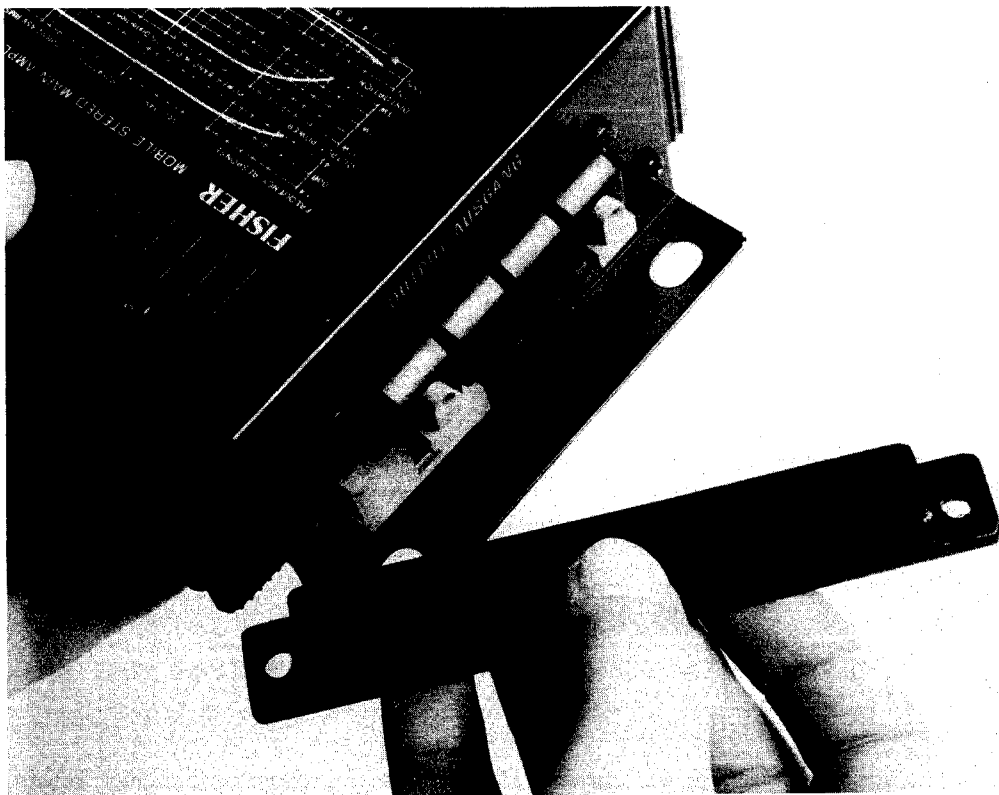
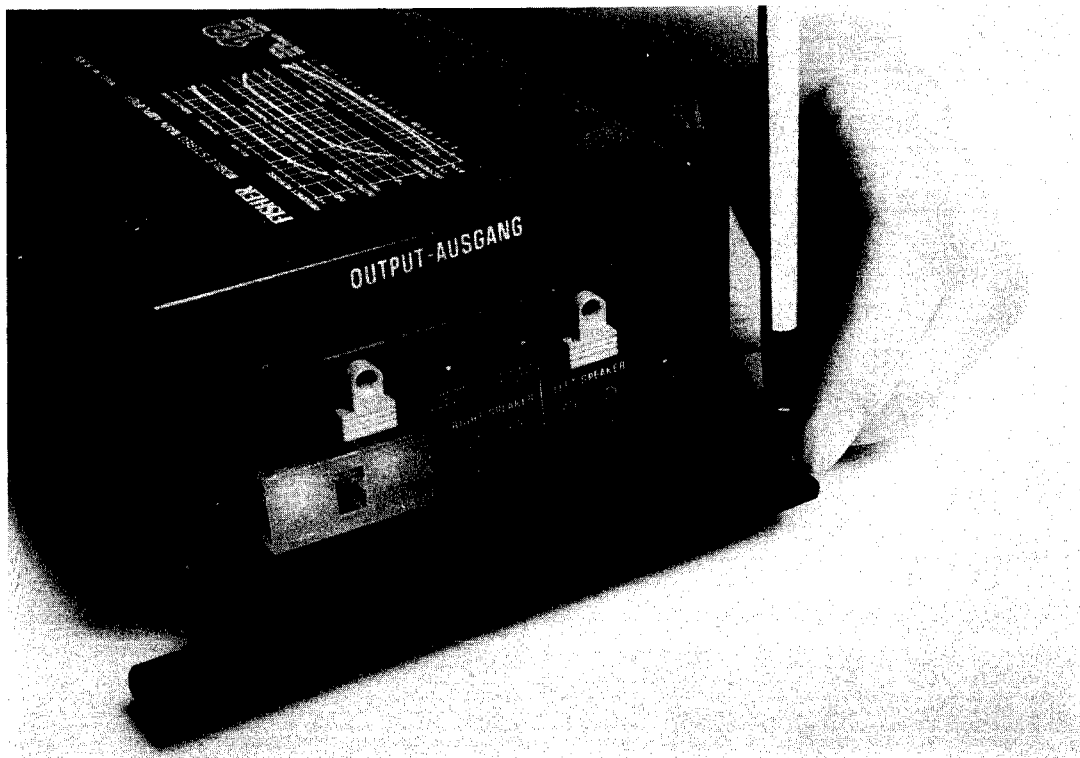

Fig. 7
Fig. 8
Place the supplied insulating parts on both sides of the angle brackets of the power amplifiers B-300 resp. B-700 (see photo Fig. 7). Fasten the supplied self-tapping screws into the oblong holes of the insulating parts (photo Fig. 8).
7. All parts of the CarFidelity System should be isolated from direct car-body contact. To fasten the power amplifier on the sheet metal of the car-body slip the insulated mounting parts onto the angle brackets (Fig. 7) and bring the screws up as shown in Fig. 8. Should the basic unit receive a ground through installation, the minus wiring from the central mass point of the unit to the battery is inapplicable. This should be tested in practical application.